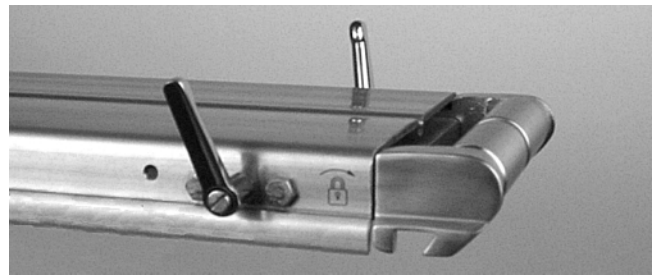

Figure 6
2. Compress tension end (Figure 6). Refer to steps 3, 4 & 5 under the “Belt Removal for Conveyor Without Gearmotor Mounting Package or Stands” on page 8.